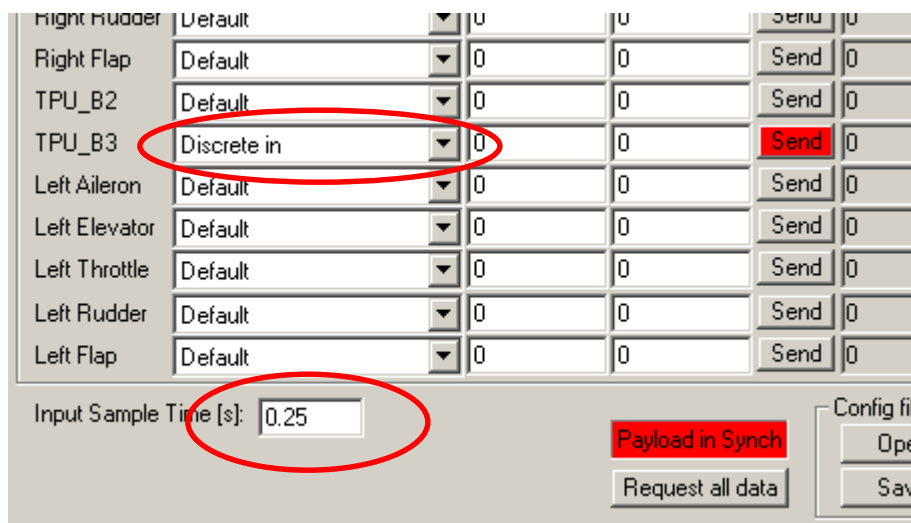

Figure 33. Configuring a digital line for discrete input.
2. Configuring the TPU_B[3] line to sample a discrete input. We want the avionics to sample a digital line and send the measurement to the ground at a fixed rate of 4 Hz. Since the TPU line goes straight into the avionics processor, we would have to make sure that the voltage on this line will never exceed 5 V. Assuming this condition is met, we can sample the line with the settings shown in Figure 33. We then press the Send button and at that time the line will be re-configured and the rate at which the digital input are sampled and downloaded will be set to 4 Hz.